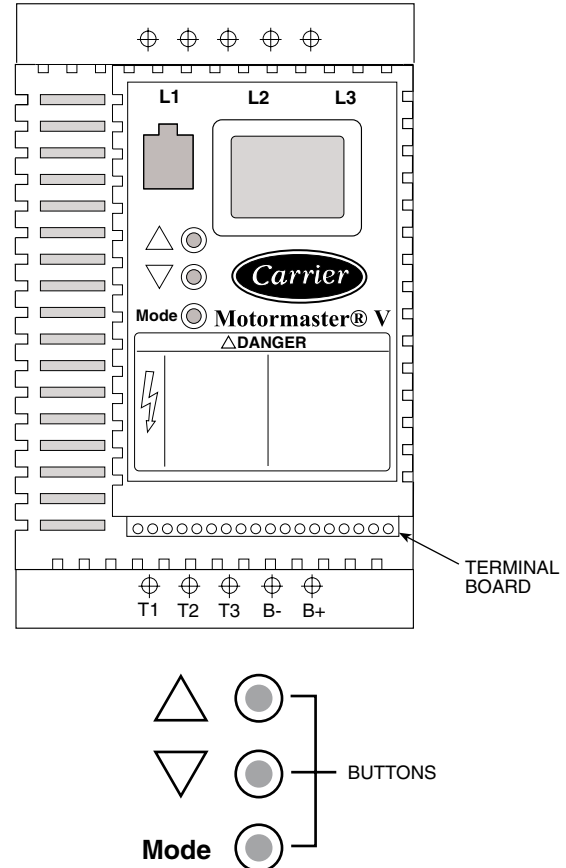

Fig. 12 — Mode Buttons and Mode Display
Motormaster V Control — The *Motormaster V* electronic control uses a 0 to 5 vdc signal input from a pressure transducer attached to the liquid line gage port on each circuit. The pressure transducer is connected to terminals 2, 5 and 6 on the controller (see Fig. 12). The controller is factory configured and requires no field programming. If drive does not function properly, the information provided below and Tables 3 and 4 can be used to troubleshoot the drive.
2. Display reads “00” and the upper right decimal point blinks (see Fig. 12). This will activate the PASSWORD prompt (if the password has not been disabled).